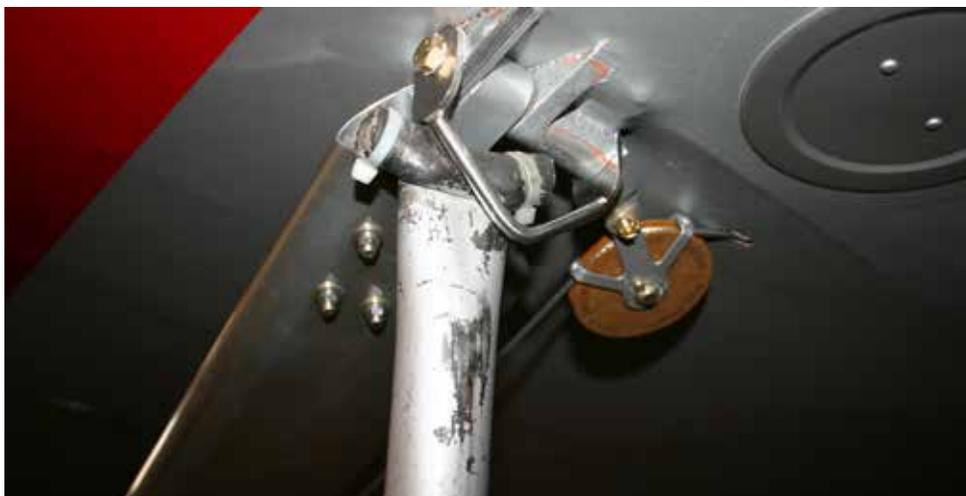

Figure 3 – Jacking from the Wing
- (b) Place jack between the main lift strut wing attachment point and the tie down (Refer to Figure 3). Jack one side at a time. Do not jack both sides simultaneously.